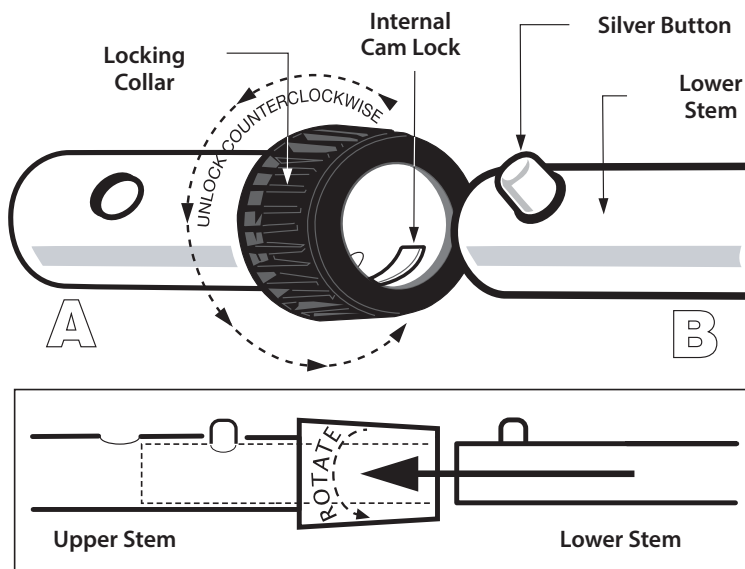

Figure 5
1. Orient the Connector in your hand with the **Wide Notch** pointed upward (figure 5).